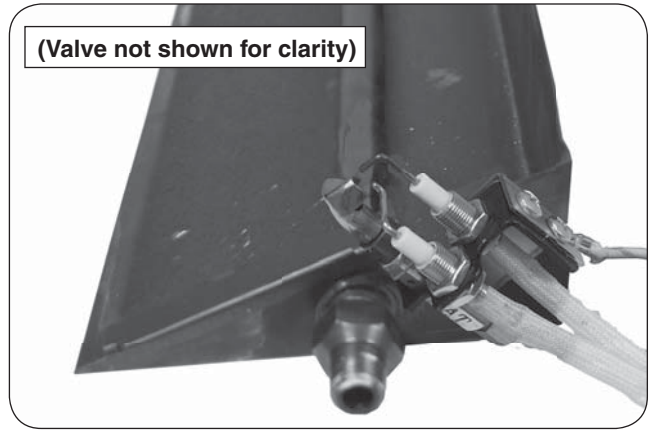
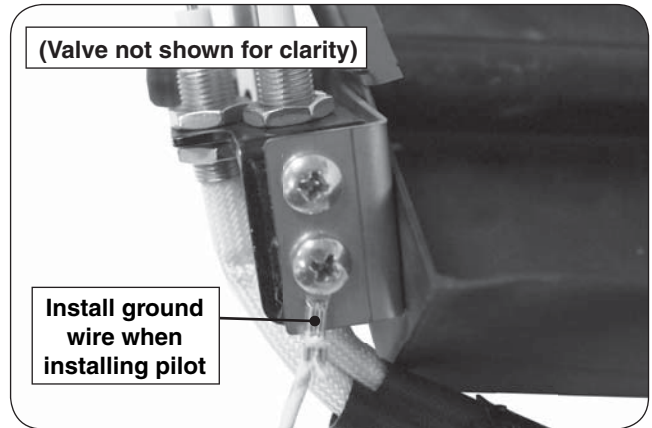

Fig. 6-1 Install pilot assembly
Fig. 6-2 Ground wire to bracket detail
Using the two (2) remaining screws, mount the pilot assembly and ground wire onto the bracket (See Fig. 6-1 and Fig. 6-2) and tighten until snug. **Check to be certain the pilot hood and probes are situated above the edge of the pan. Adjust if necessary.**